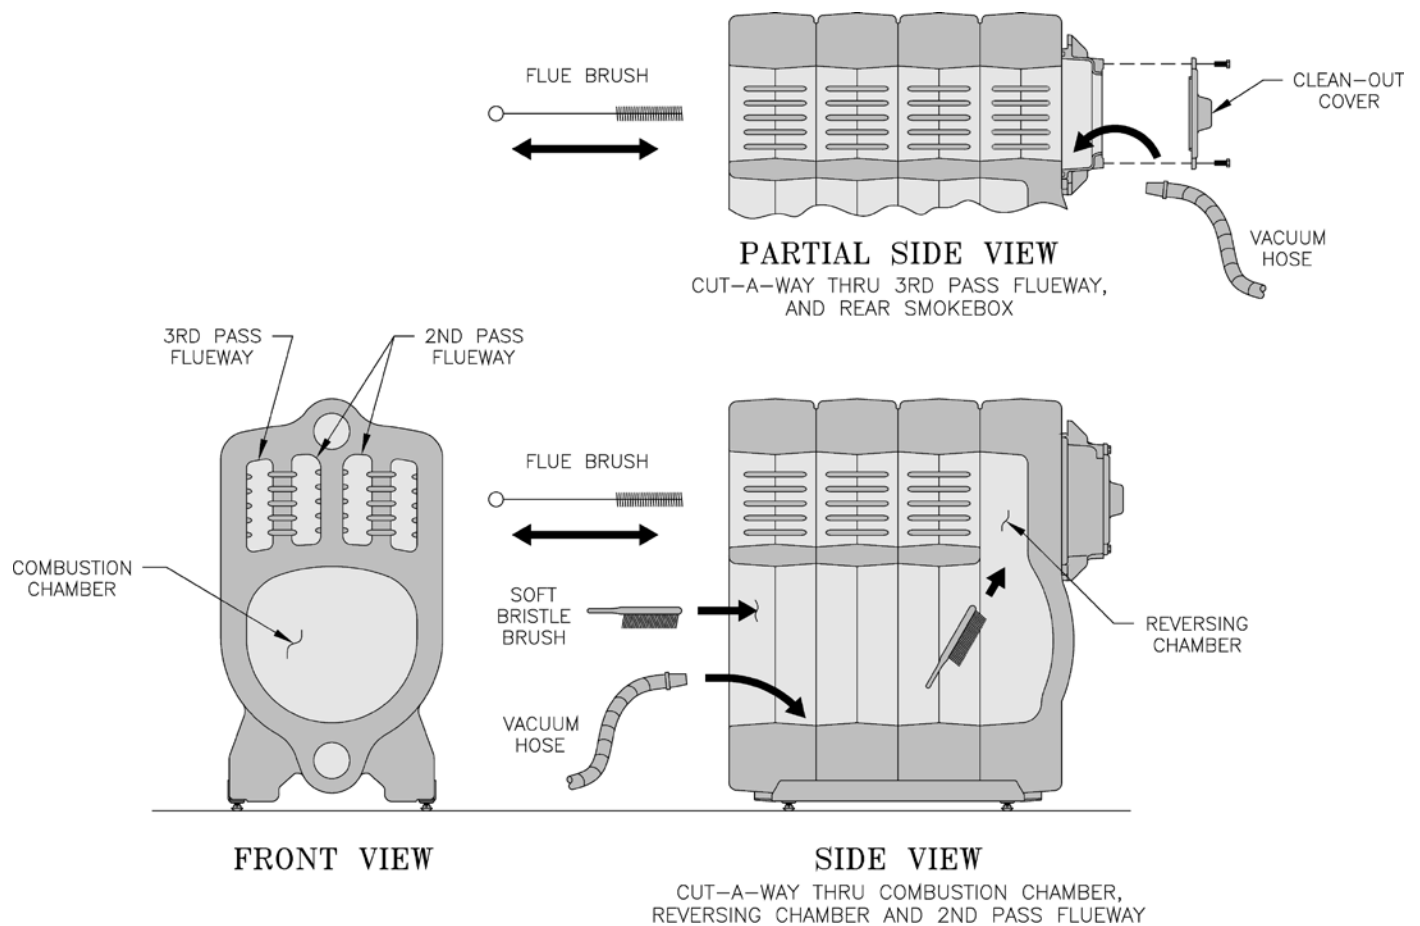

Figure 40: Cleaning of Boiler Flueways
A. CLEAN THE FLUEWAYS (See Figure 40).
1. For access to the combustion chamber remove the two (2) 3/8" - 16 cap screws. If boiler is equipped with flexible fuel line(s), swing door open.